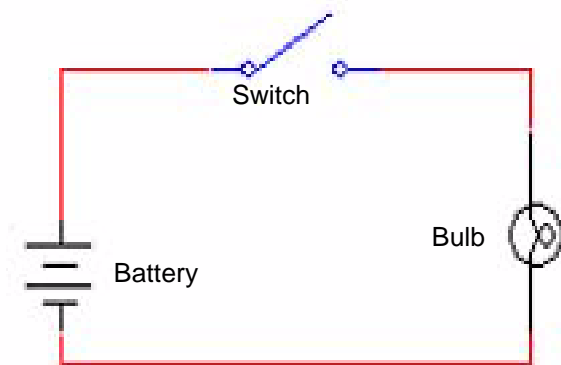

Figure 2.4
- Series circuits are wired so that the current has only one path to follow. See Figure 2.4.